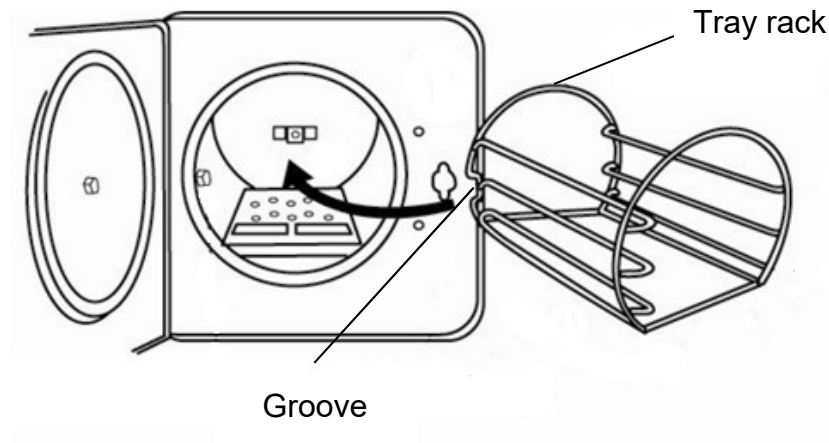

Figure 13
C. Install the tray rack (standard accessory). as shown in Figure 13.
**CAUTION:** The tray rack should be installed as shown in Figure 13 below. The groove of the tray rack will pass through the bushing in the chamber.